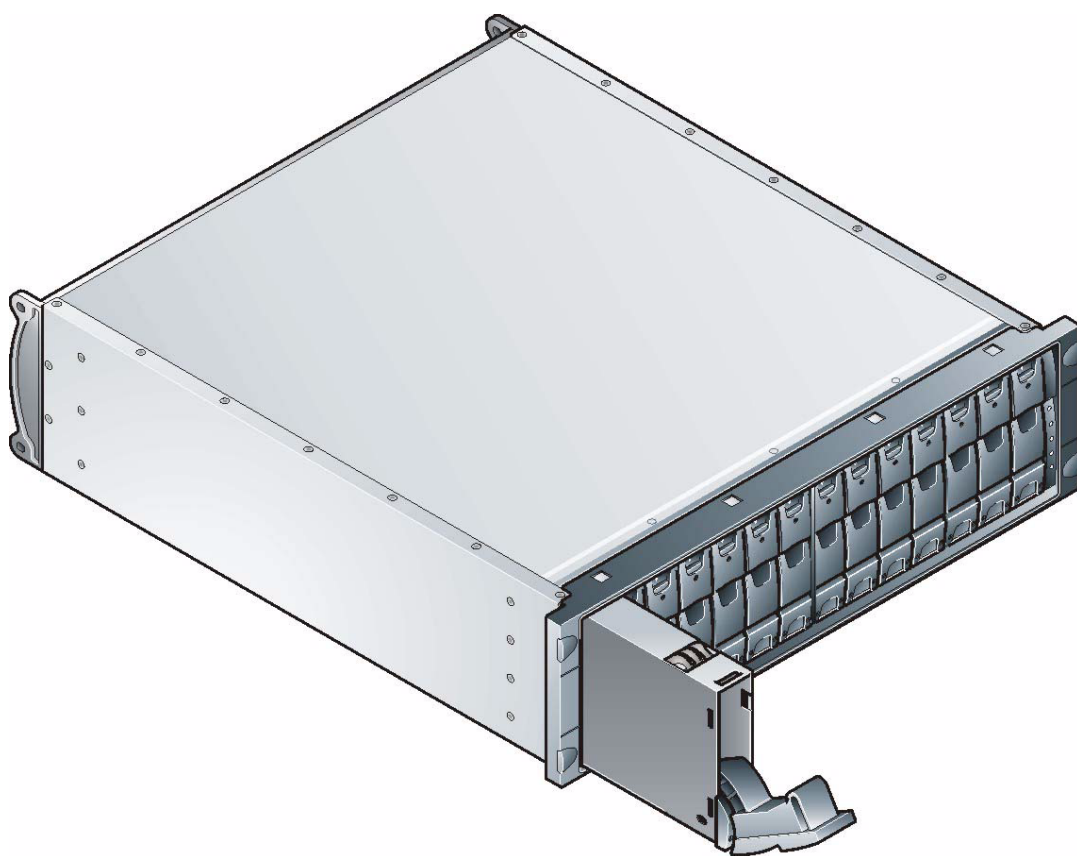

Figure 2-19 Installing an Ultra-3 SCSI Drive Carrier Module (2)
- 2 Slide the carrier, gently, all the way into the enclosure until it is stopped by the camming lever on the bottom of the carrier (Figure 2-19)